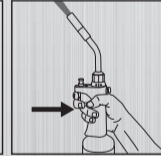
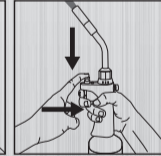
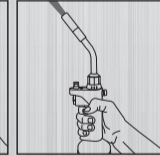

Fig. 3
Fig. 4
Fig. 5
5. To engage the ignition button lock for a continuous work, press the ignition button(Fig.3) and push the flame locking lever(Fig.4) down. Then release the ignition button(Fig.5).
1. Press the ignition button(Fig.3) again to release the ignition. Note: The flame may continue to burn for a short period of time if the torch has been operated in an inverted (upside down) position.